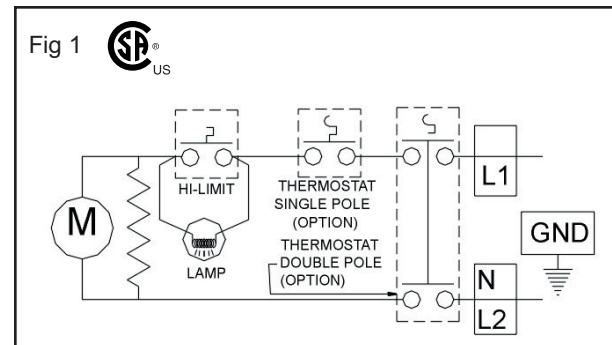

Fig. 2a : Drawing single-pole thermostat
- 3- Connect the thermostat to the unit according to the wiring diagram (Fig. 1) and the drawing (Fig. 2a or 2b).